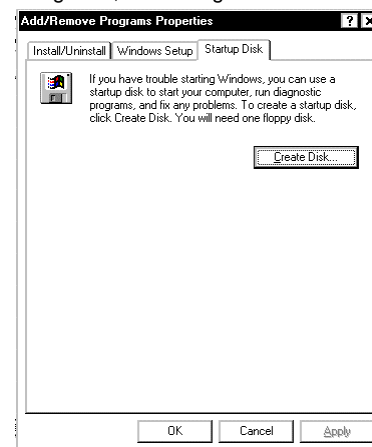

Figure 3, Creating Startup Disk
3. Select Add/Remove Programs, then Startup Disk (see Figure 3). Follow the directions on the screen